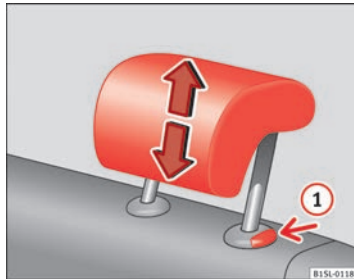

Fig. 32 Removing the rear head restraint
- Pull the head restraint out of the fitting without releasing the button ⇒ Fig. 32 .